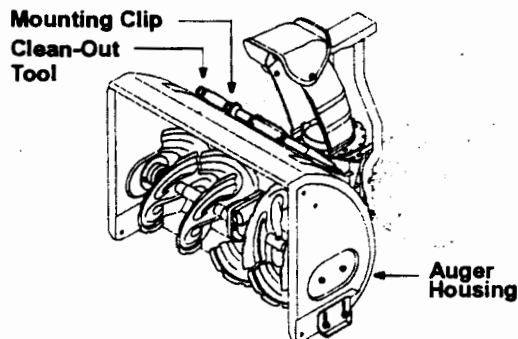

Figure 13
3. Remove the clean-out tool from the clip which secures it to the rear of the auger housing. See Figure 13.